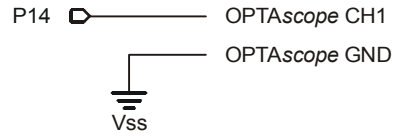
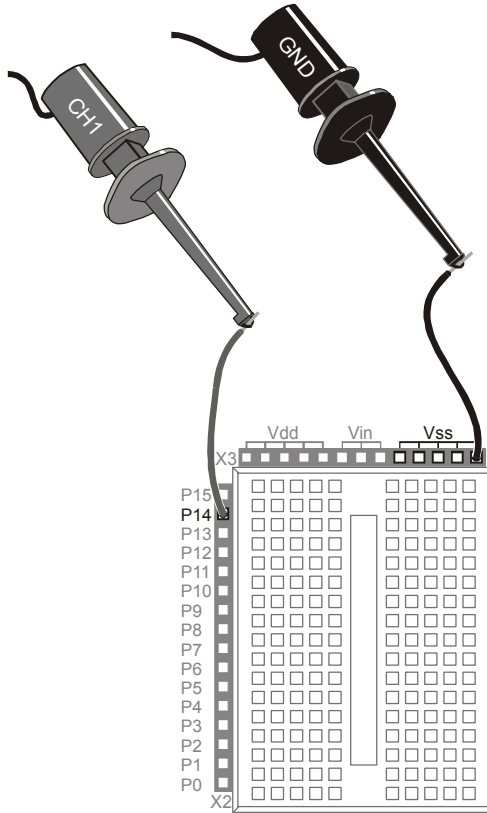

Figure 1-14:
Figure 1-15:
- √ Build the simple circuit shown in Figure 1-14 and Figure 1-15.